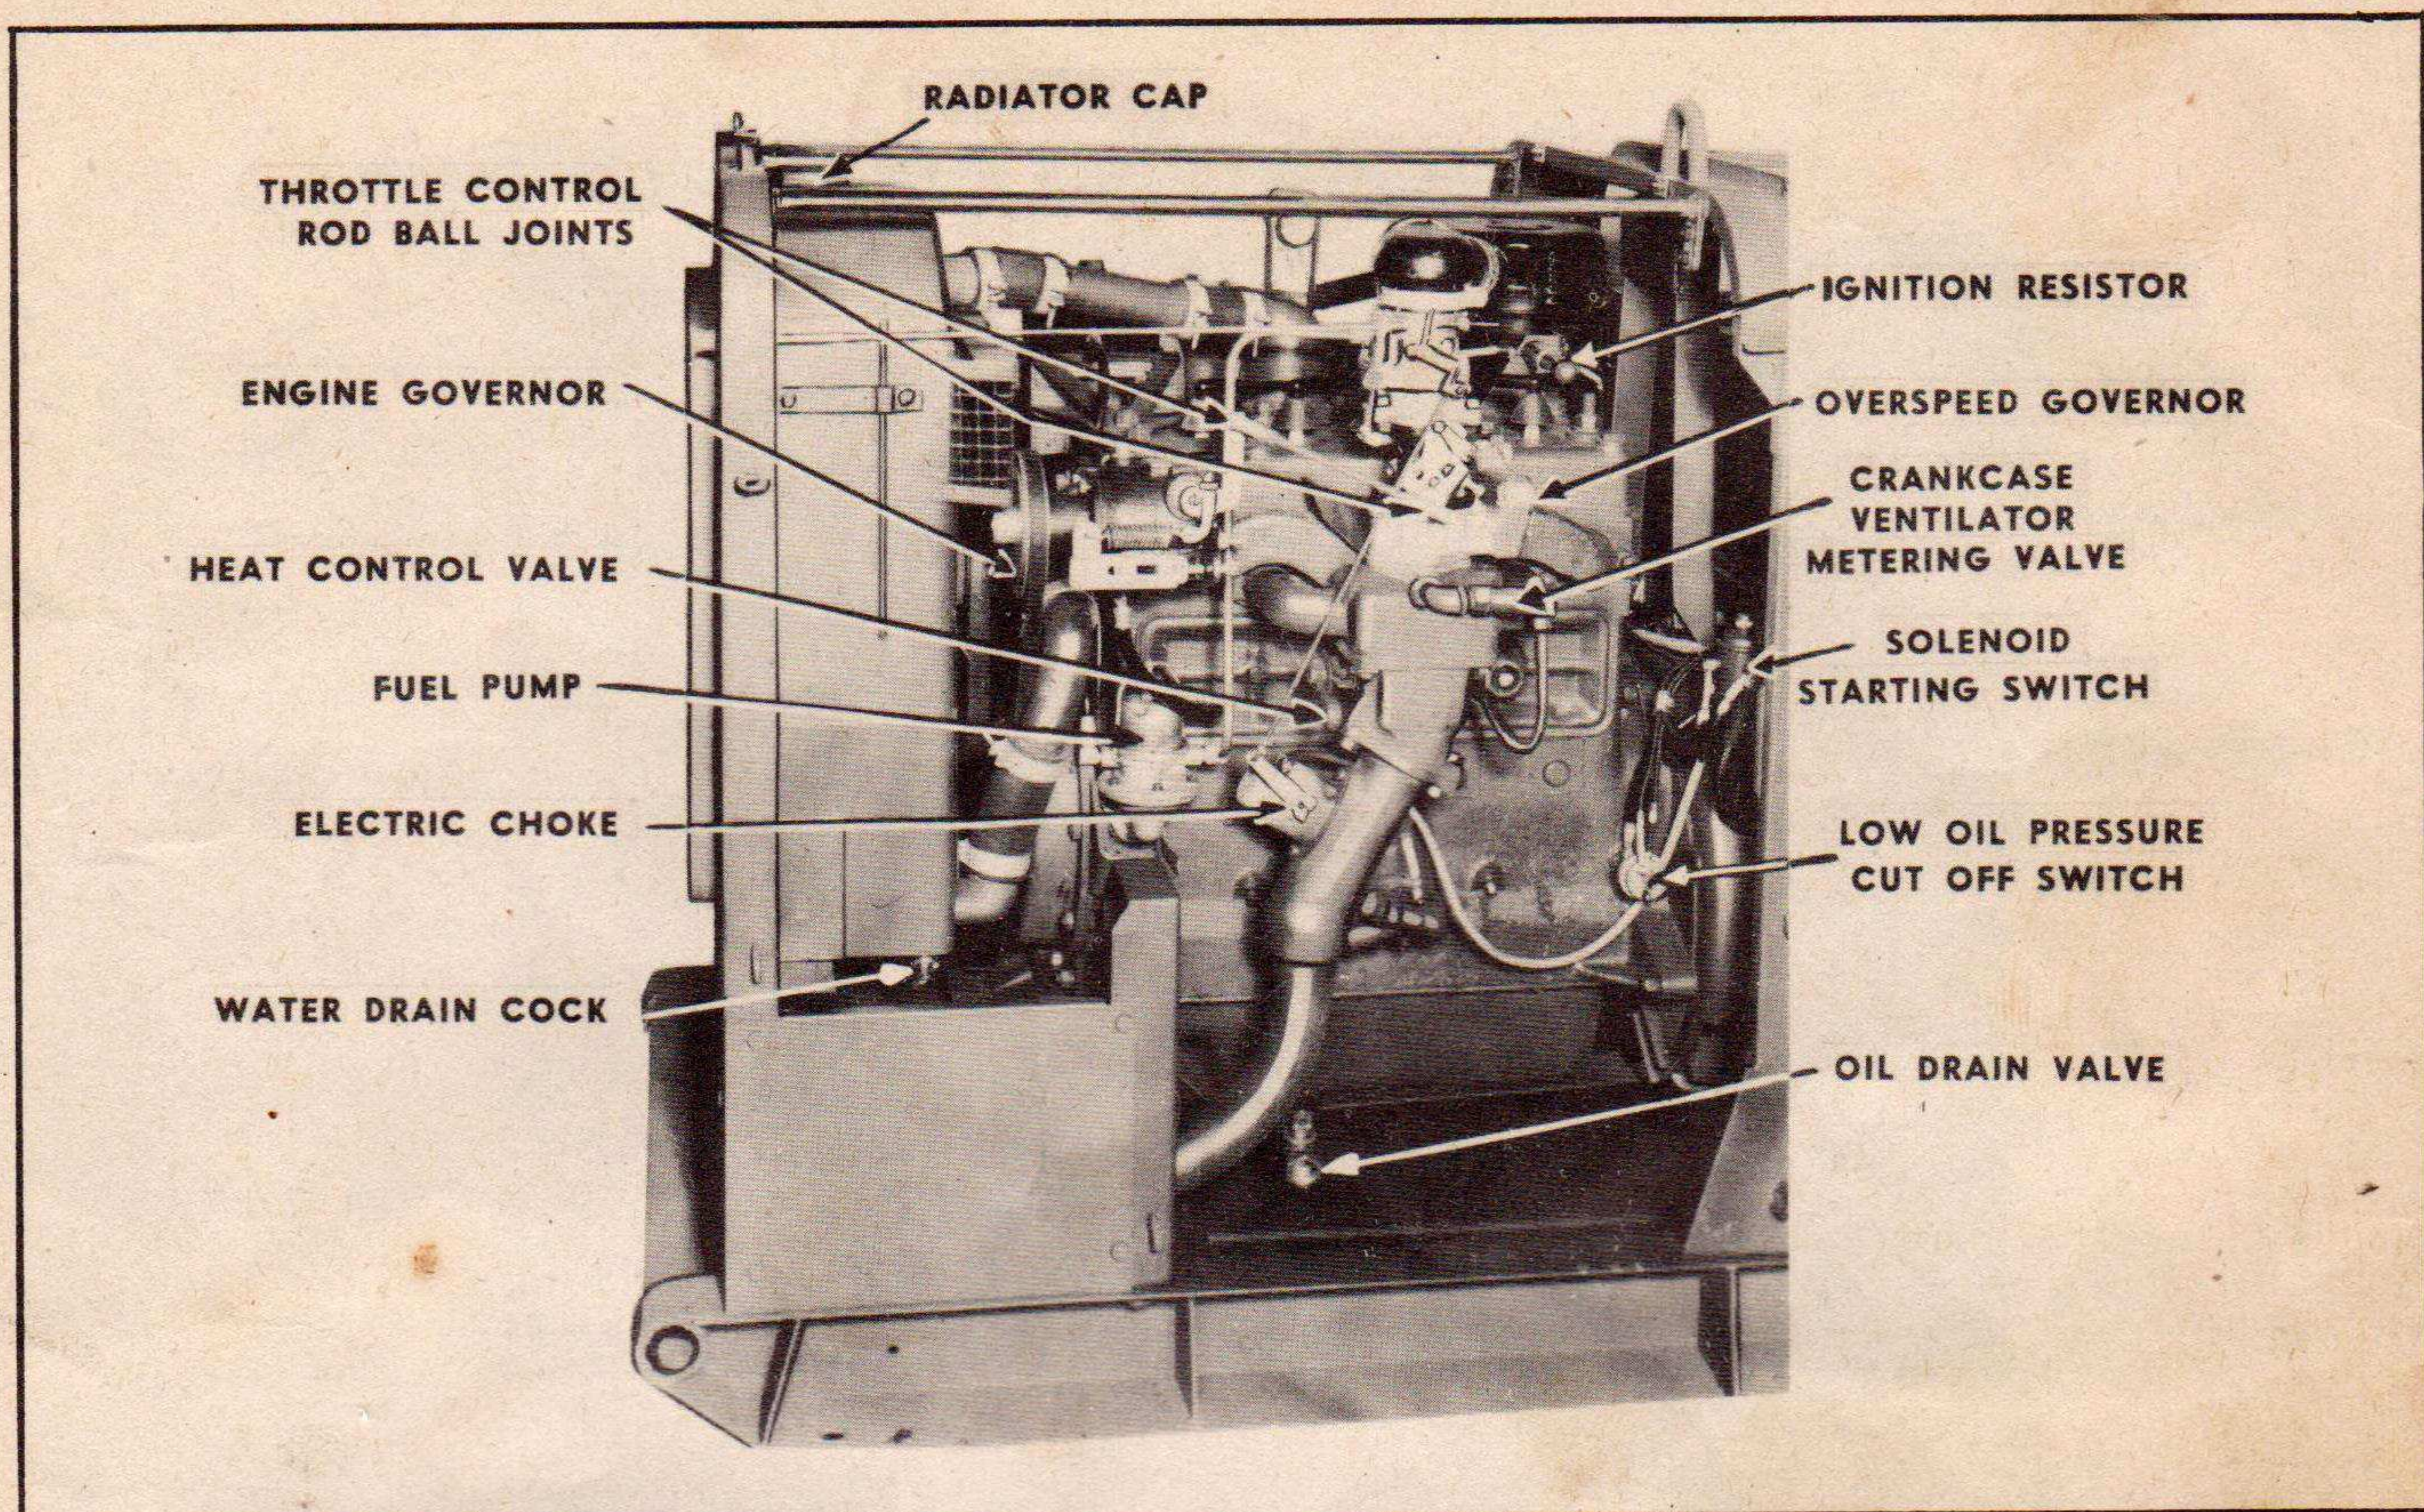

FIG. 5 RIGHT SIDE OF ENGINE
a. Design.—The engine (Fig. 5) is of the 4-cylinder, 4-cycle, L-head, water cooled, automotive type. It furnishes the power which drives the main generator to which it is direct-connected. It also drives certain necessary accessory equipment. It is designed to operate on regular gasoline of 70 to 80 octane.
c. Miscellaneous Control Equipment.—The following control devices are located at different places on the power unit. (See Figs. 5 and 6).
(20) *Fuel Pump*.—By means of the lever on the side of the fuel pump, (Fig. 5), pump the carburetor bowl full of fuel. If the engine camshaft sets so that the pump diaphragm is in its lowest position, the lever will not operate the pump. In that case insert the hand crank and crank the engine one complete revolution. Then the pump can be operated by the lever. Always push the lever down after pumping. If left up, the pump will not be operated by the engine. Examine the entire fuel system for leaks and correct any found.